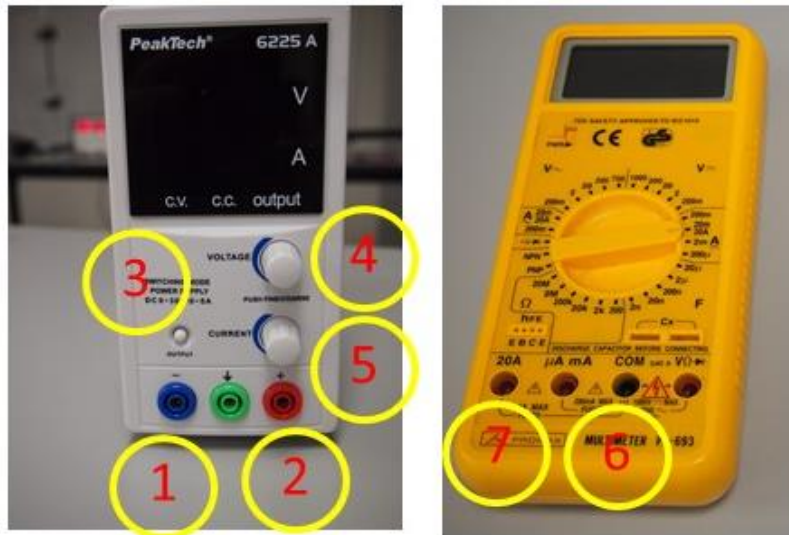

Figure 8. Experimental set-up. Power supply, amperimeter and copper rod
- 5.2.1 Connect control (1) of the power supply to the control (6) of the amperimeter. The control (7) of the amperimeter to the point (8) of the copper rod. From the point (9) of the copper rod to the control (2) of the power supply. In this way, the power supply, the amperimeter and the copper rod are connected in series (Figure 8).